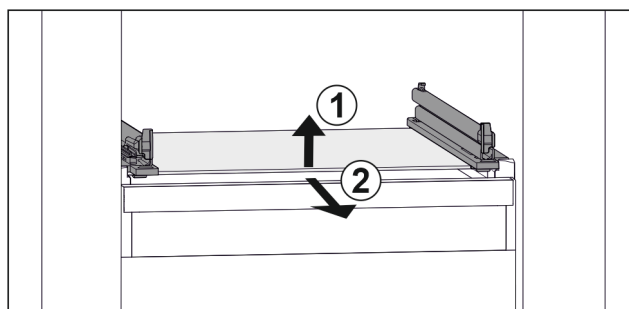

Fig. 46 Example illustration of glass shelf
- ▶ Lift glass shelf at the front. Fig. 46 (1)
- ▶ Take out glass shelf to the front. Fig. 46 (2)